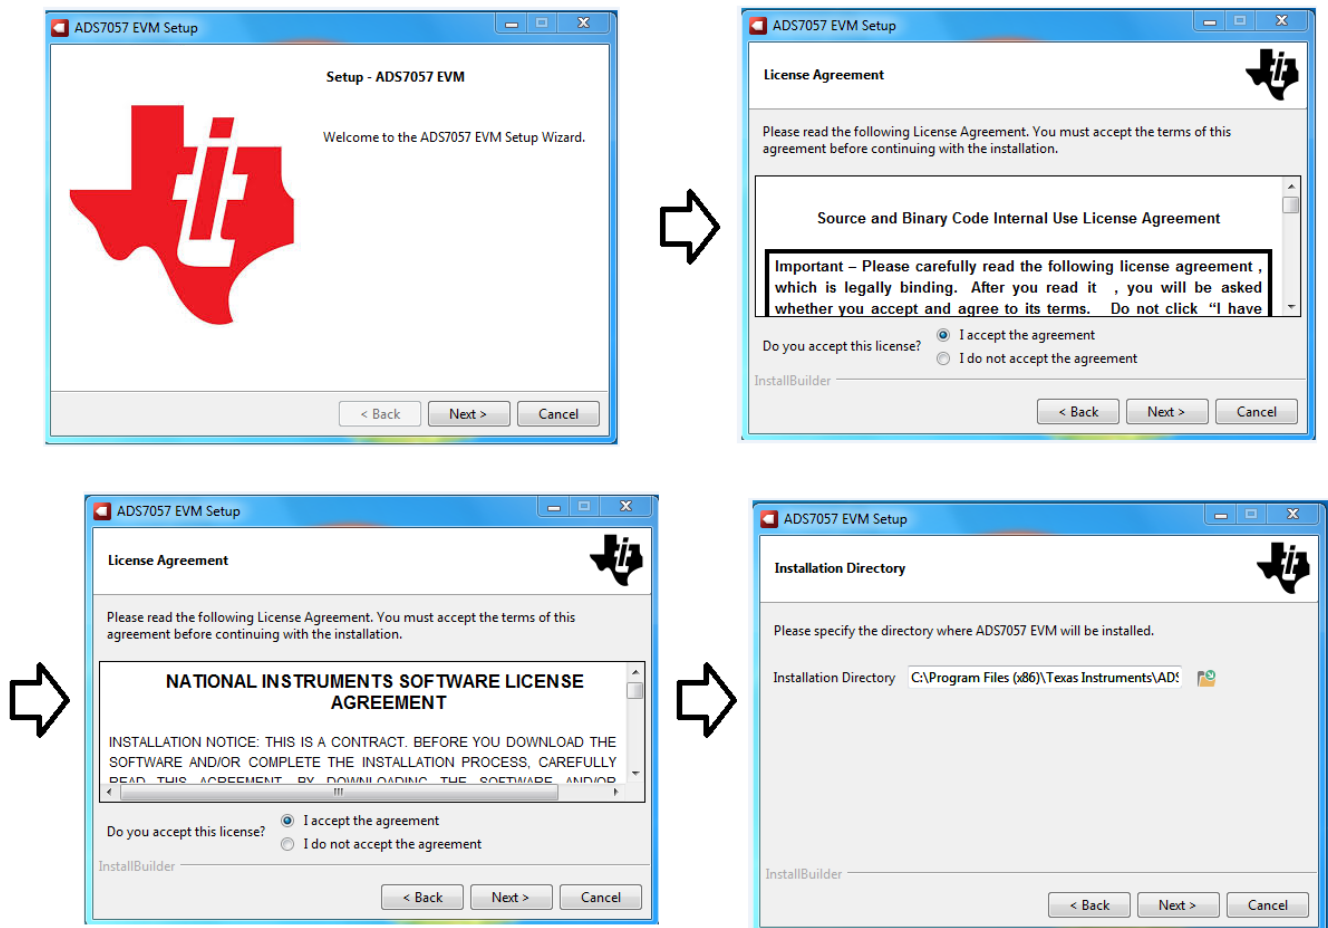

Figure 3. ADS7057EVM Software Installation Prompts
2. Accept the License Agreements and follow the on-screen instructions to complete the installation (see Figure 3).